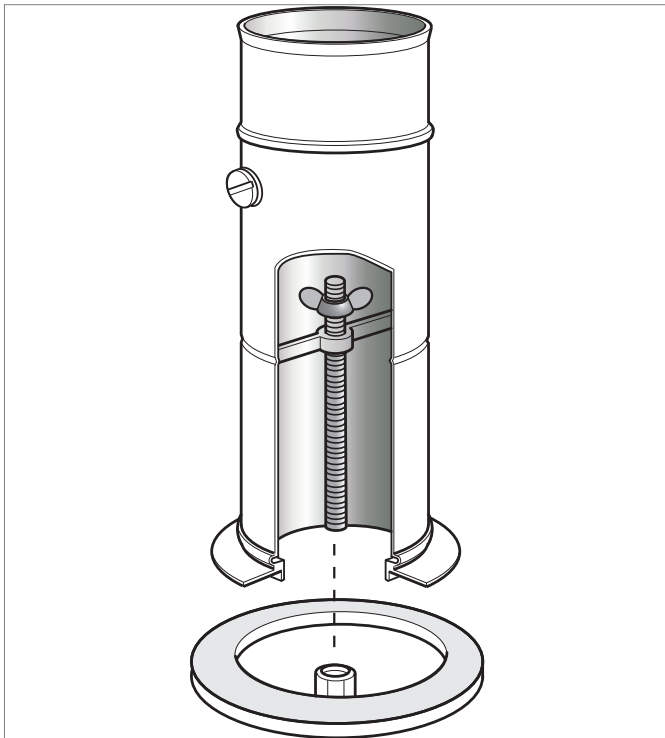

Figure 9-4: Boiler flue connector
4. Fit washer and wing nut provided onto the end of threaded studding and secure connector in position by tightening down on wing nut – as shown in Figure 9-4.